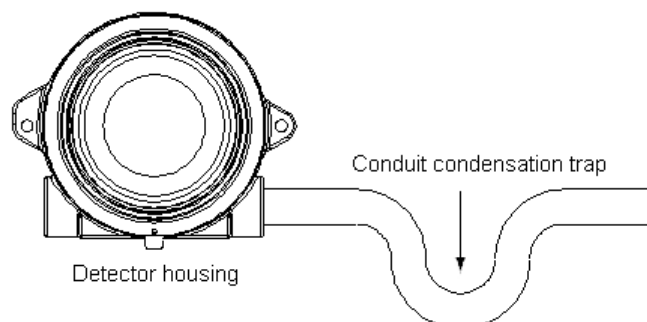

Figure 9. Conduit trap
- b. Install an approved conduit condensation trap or drain as shown in Figure 9 (if required to meet hazardous area classifications per NFPA 70: National Electrical Code, latest revision).